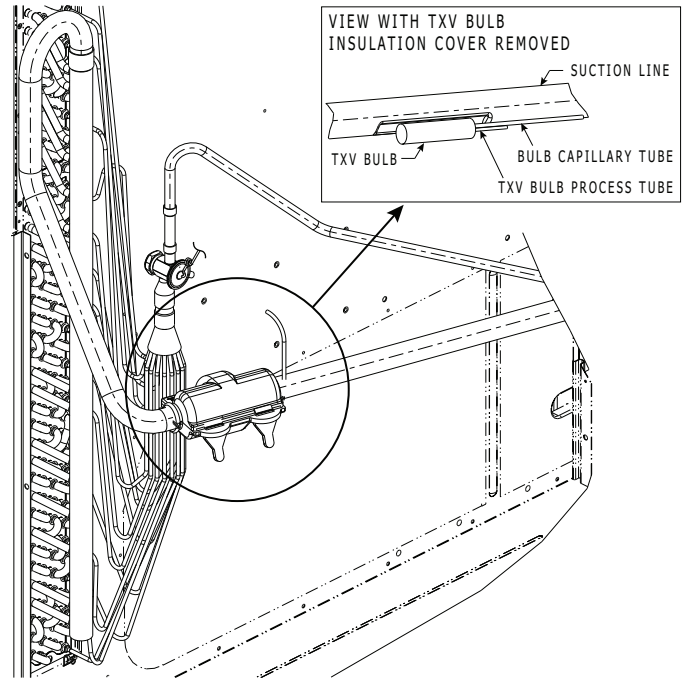

Fig. 25 — TXV Valve and Sensing Bulb Location
10. Attach TXV bulb in the same location where the original (in the sensing bulb indent) was when it was removed, using the supplied bulb clamps. See Fig. 25.